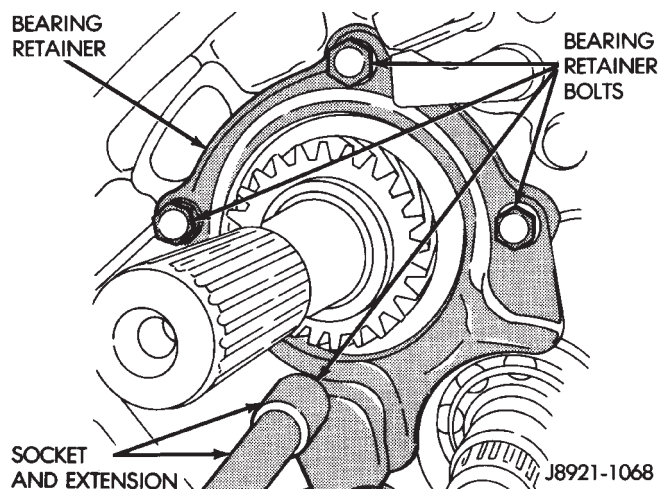

Fig. 38 Removing Output Shaft Rear Bearing Retainer Bolts
(19) Remove bolts attaching output shaft rear bearing retainer to intermediate plate (Fig. 38).